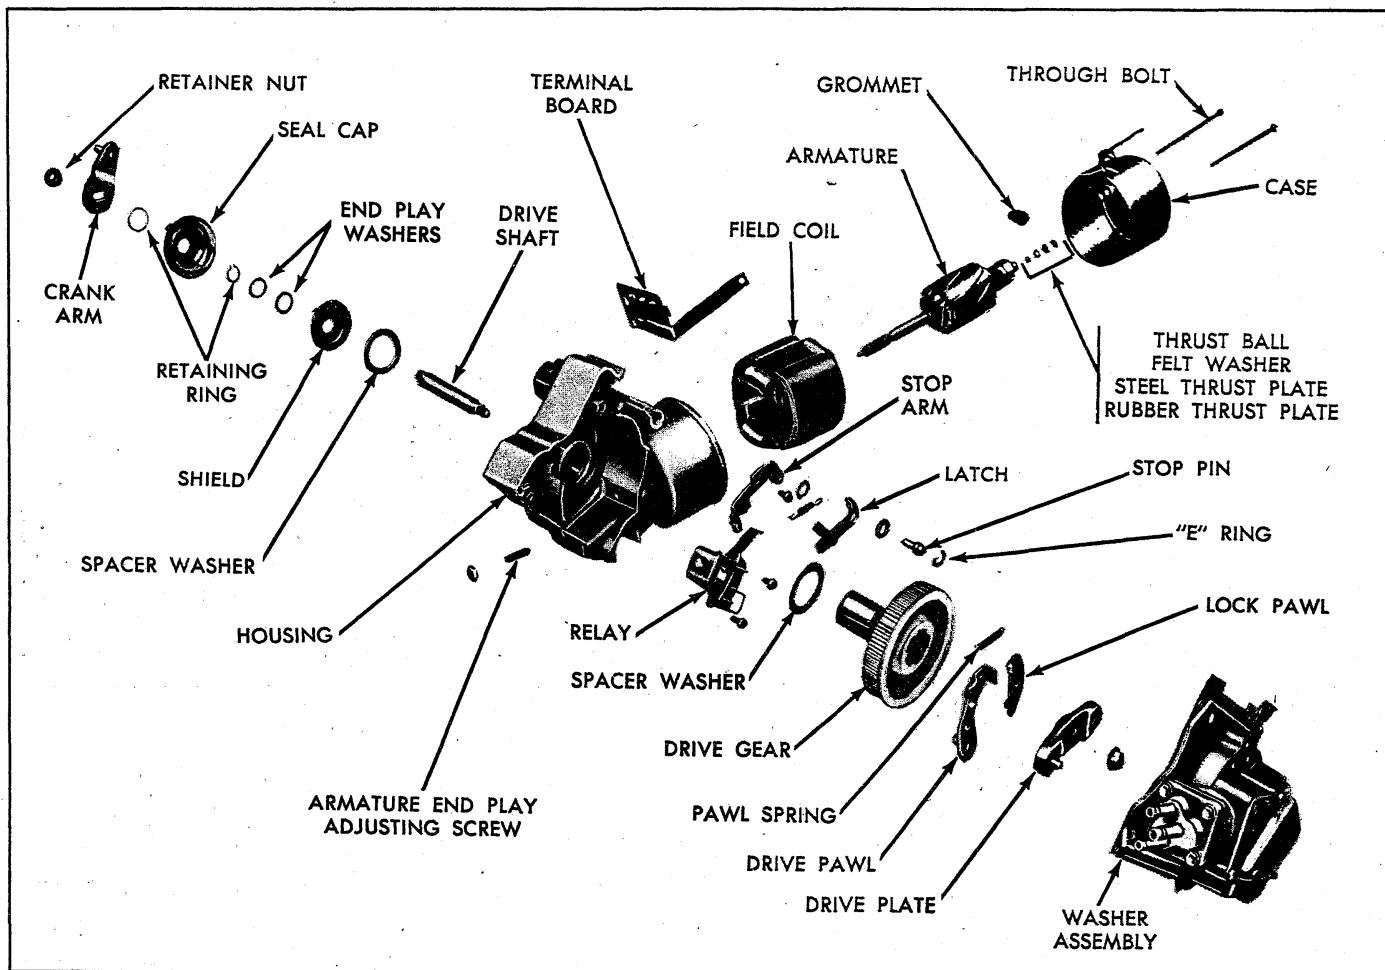

Fig. 96 - Wiper Assembly Exploded View
1. Assemble rubber thrust disc, steel thrust plate and felt washer in order indicated (fig. 96).